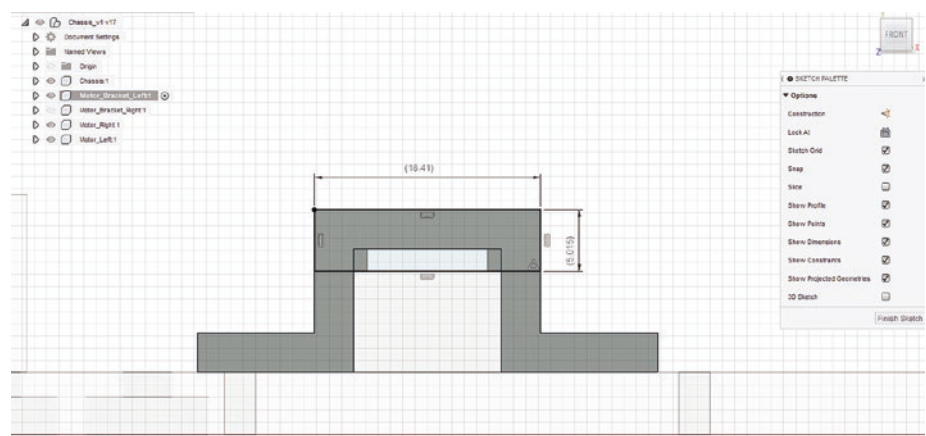

Figure 6-67. *Create a rectangle that will hold in the back of the motor*
37. Create another brace for the back of the bracket; this will make sure the motor does not slip out the back of the bracket. See Figure 6-67.